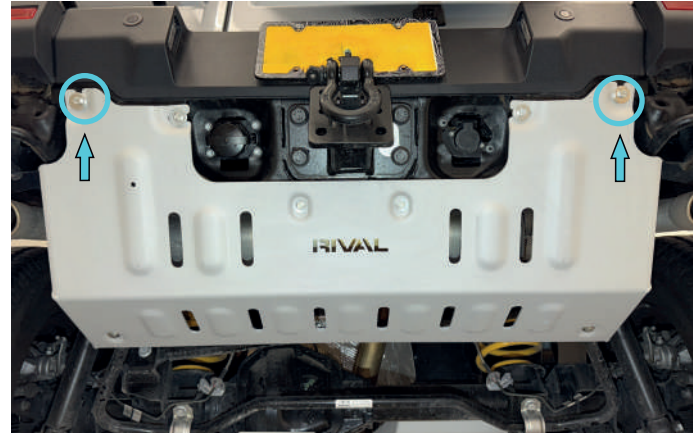

Fig. 2
2. Slide rear part of muffer skid plate(item 1) to previously installed bolts and secure using M8x1x25 bolts with M8 & M10 washers (items A,B,C) as shown in fig.2.